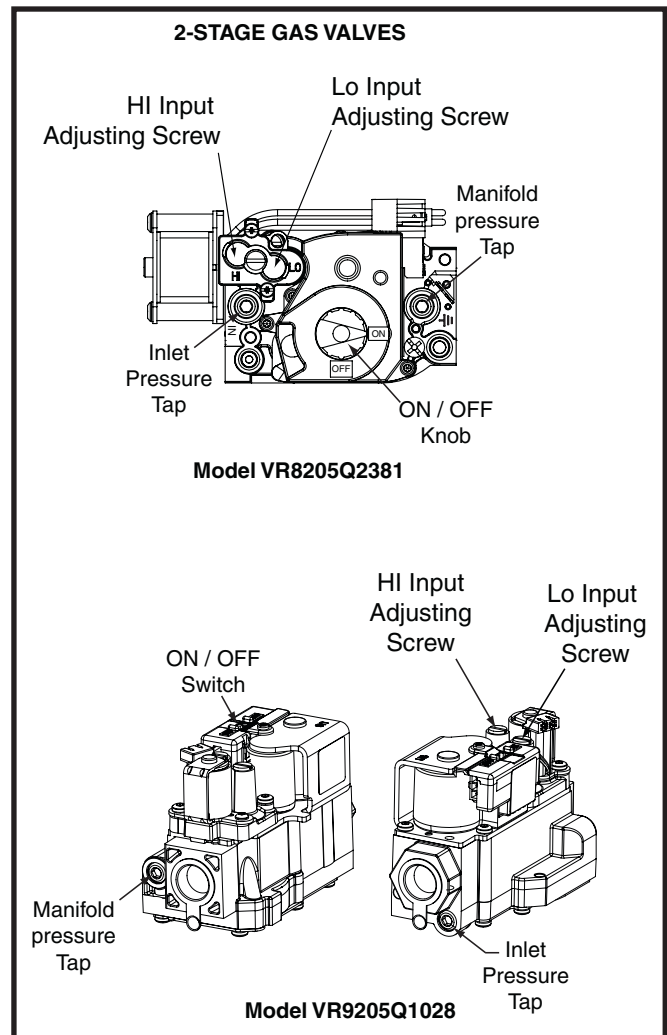

Figure 25. HI & LO Input Adjusting Screws
- Using an Allen wrench, turn the the LO Input Adjusting Screw on the LO side of the regulator to adjust the reduced input setting or turn the HI Input Adjusting Screw on the side of the regulator to adjust the full input setting. See Figure 25 \(page 27\).